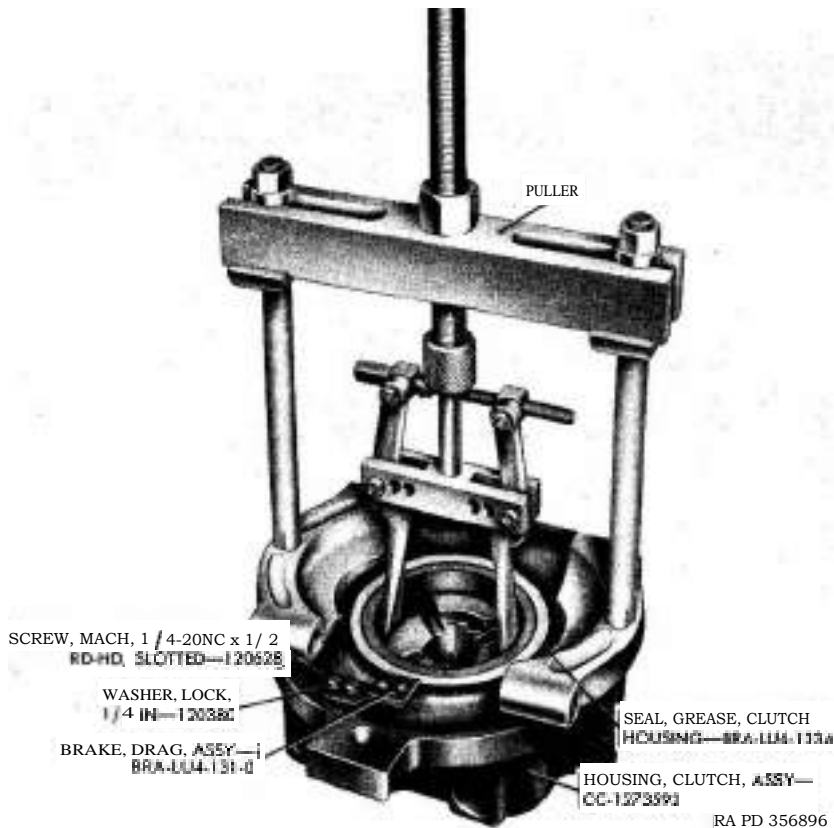

Figure 223. Removing clutch housing grease seal with puller.
- (5) Position cable drum drag brake assembly (XX) on
clutch housing assembly (*fig. 223*). Install two 1/4-inch lock washers (WW) and ~~1/4-20NC~~ $\frac{1}{4}$ x $\frac{1}{2}$ slotted-round head machine screws (VV) ; then tighten screws.
- (6) Install 3/4-inch pipe plugs (YY and AE) in drain and filler openings in clutch housing assembly but tighten only drain plug. Install ~~1/8-inch~~ pipe plug in level opening of clutch housing assembly but do not tighten plug.
- (7) Place cable drum retainer ring (AU) on clutch housing bushing type bearing in clutch housing assembly. Engage sliding clutch (AX) with clutch shifter fork (AV) (jaws exposed).
- (8) Prepare new clutch housing grease seal (AT) by soaking in castor oil or Neatsfoot oil for about 30 minutes and work leather by rolling with a smooth, round bar. Coat outer surface of grease seal with plastic-type gasket cement and install grease seal in clutch housing assembly (lip of seal in).